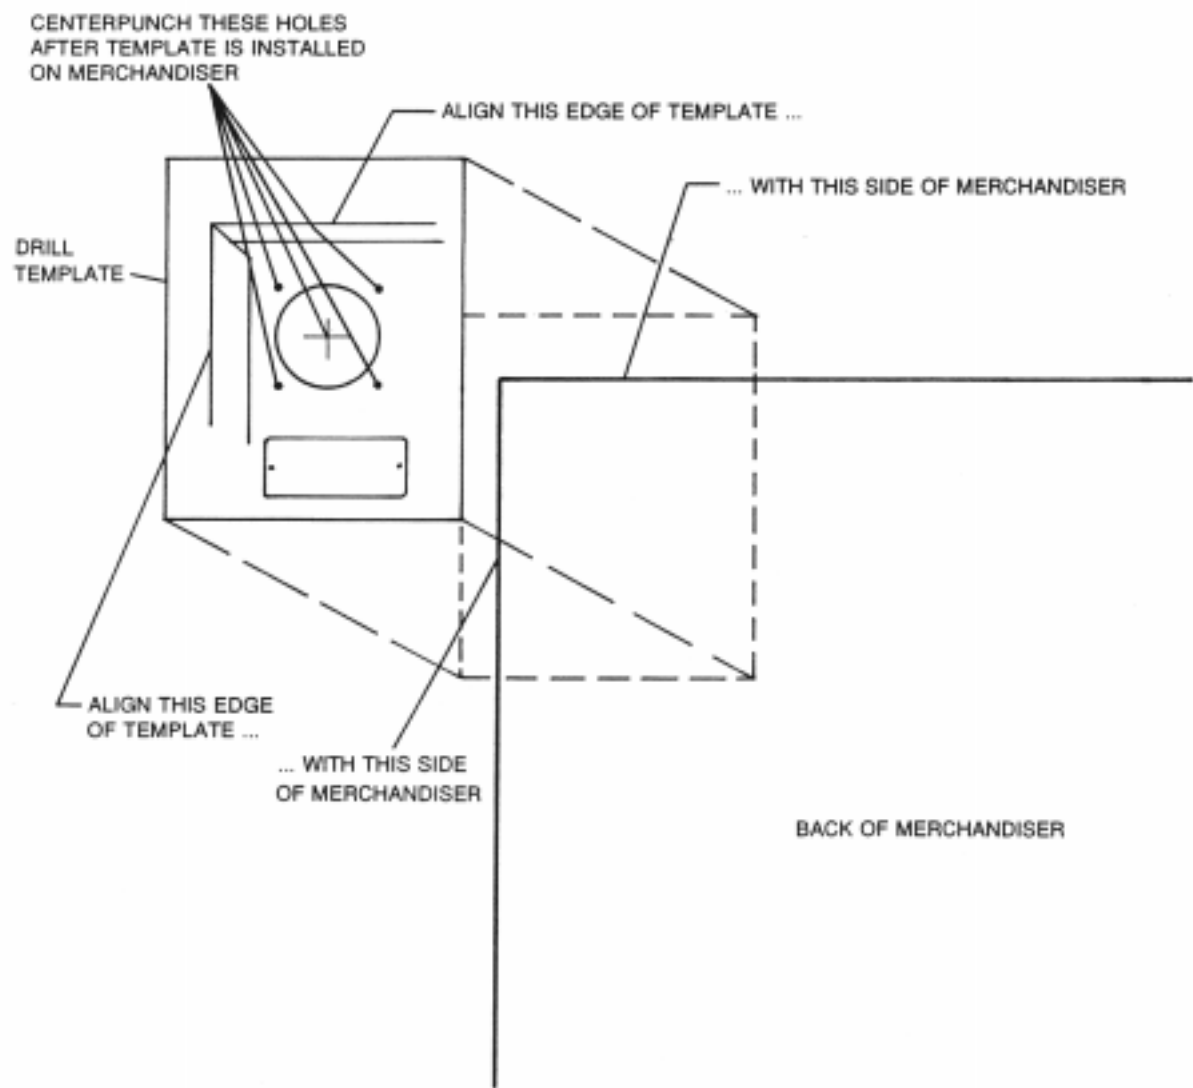

Figure 3.
3. Tape the drill template to the outside of the merchandiser in the back upper lefthand corner. Following the drill template, centerpunch the holes to be drilled. See Figure 3.